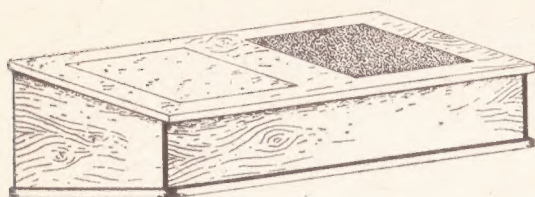

Fig. 1—The completed box
**T**HE pencil box indicated in Fig. 1, and the same box with cover removed in Fig. 2, is just the thing to make either for yourself, or for your young brother or sister. The box lid is provided with a piece of emery cloth on which the pencil can be sharpened, as indicated in Fig. 2.